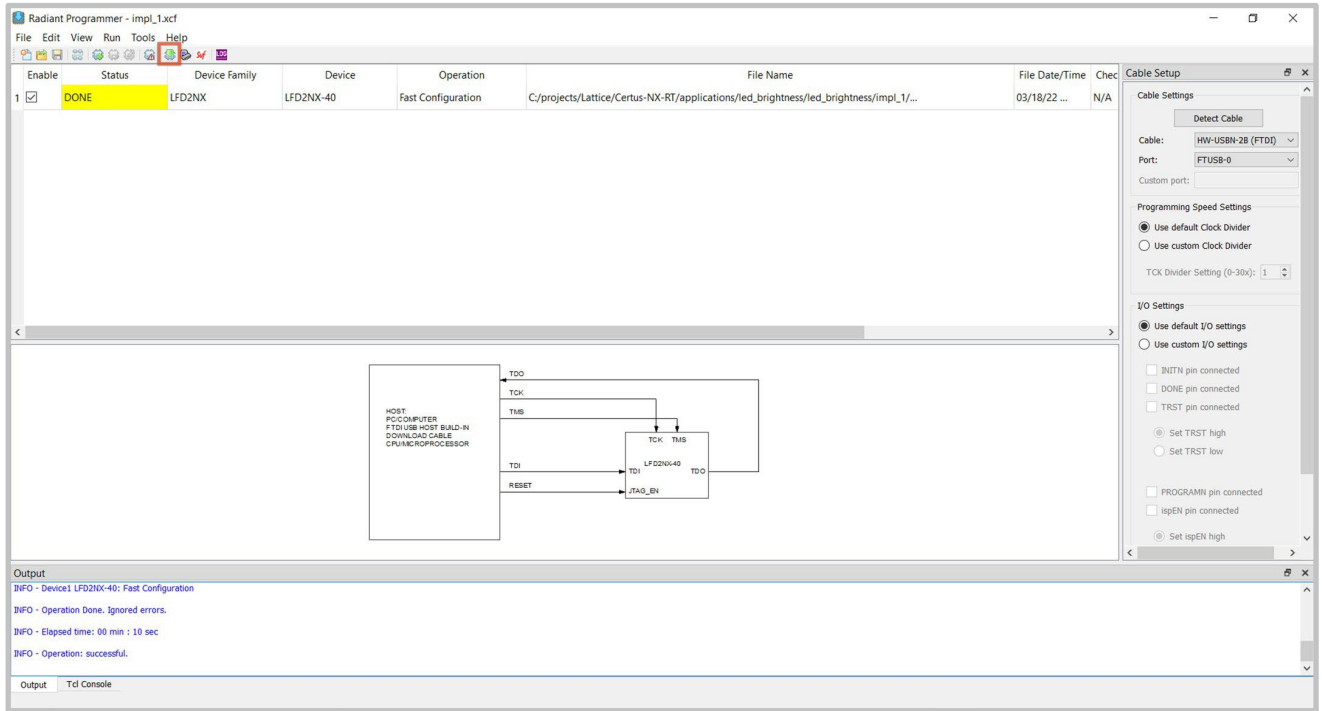

Figure 18: Programming the FPGA
- From the **Tools** menu, select **Programmer** and a new window opens, see **Figure 18**. Once the cable is detected and settings are set, program the device by clicking the Program Device icon  , **Figure 18**.